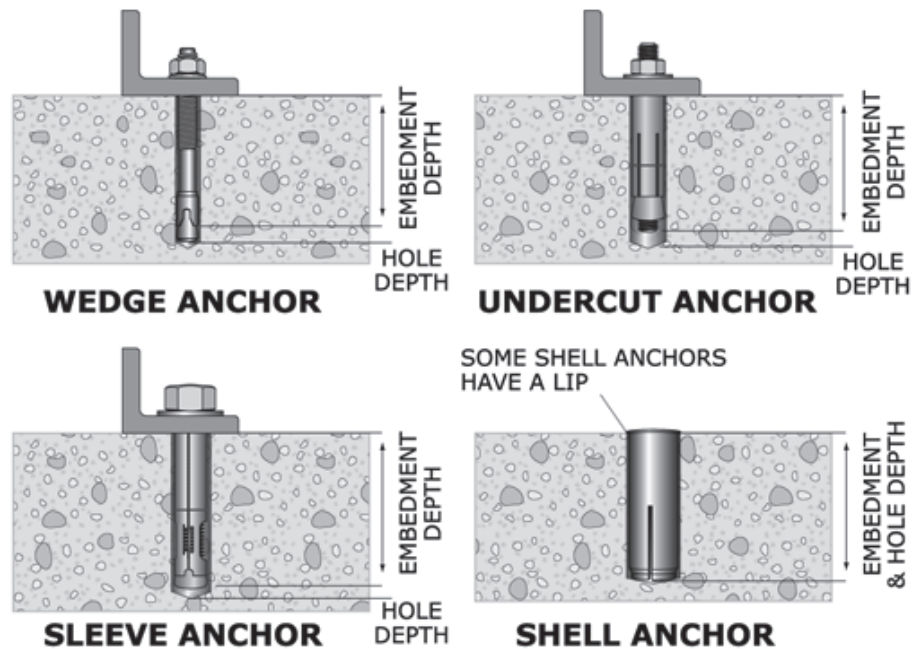

Figure 132: Embedment depth and hole depth of four anchor types.
**The required hole depth may be different from the embedment depth. See Figure 132 (page 97).**